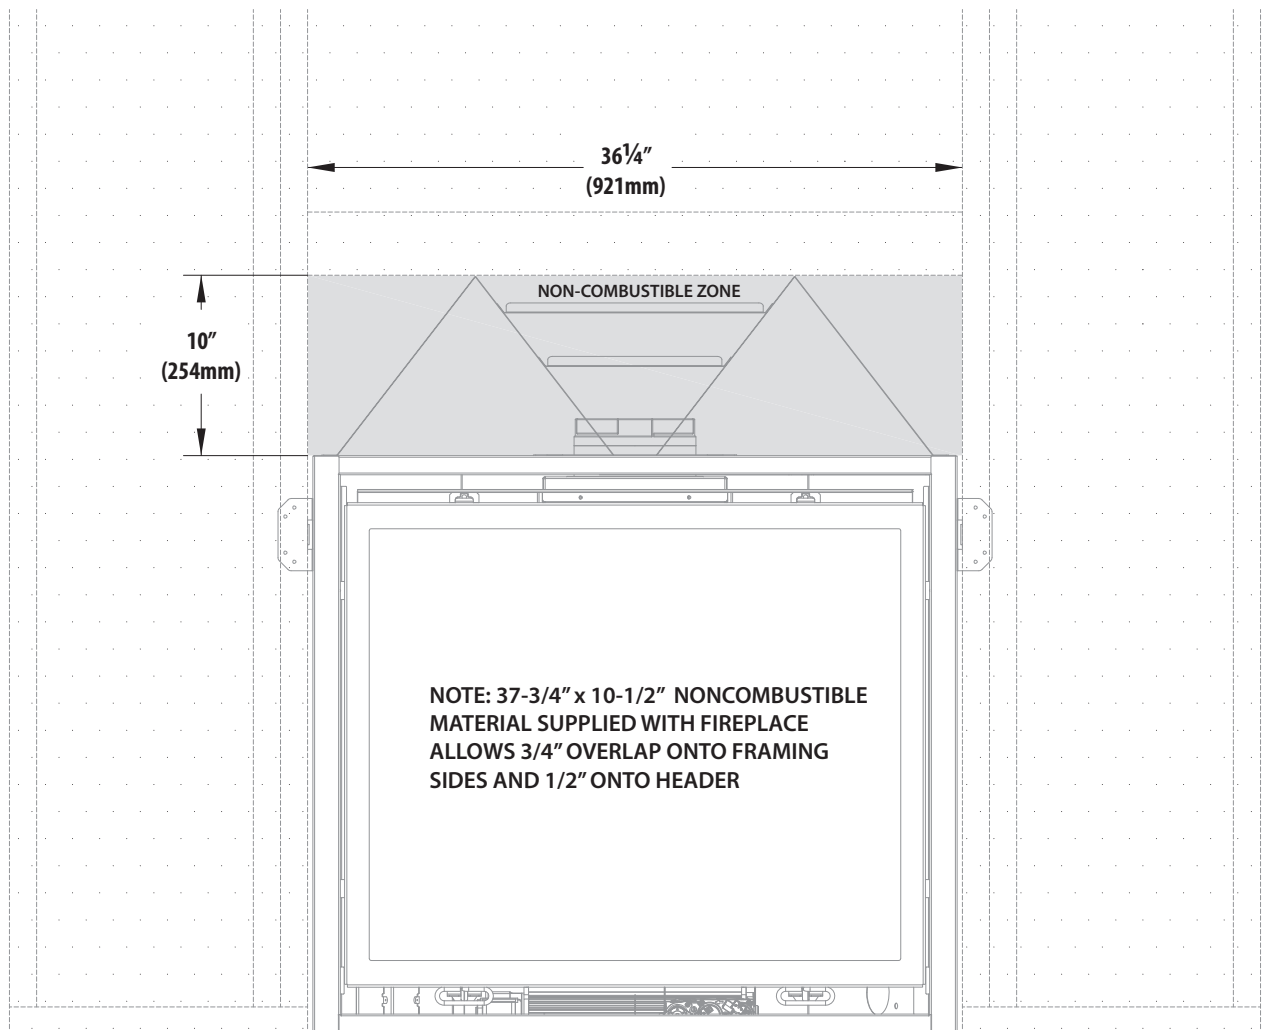

Figure 4.4, BAY-36 Non-Combustible Zone
- A 37-3/4" x 10-1/2" non-combustible material (board) is supplied with this fireplace. The non-combustible material (board) allows 3/4" overlap onto framing side and 1/2" overlap onto header. See Figure 4.4, BAY-36 Non-Combustible Zone on page 21.